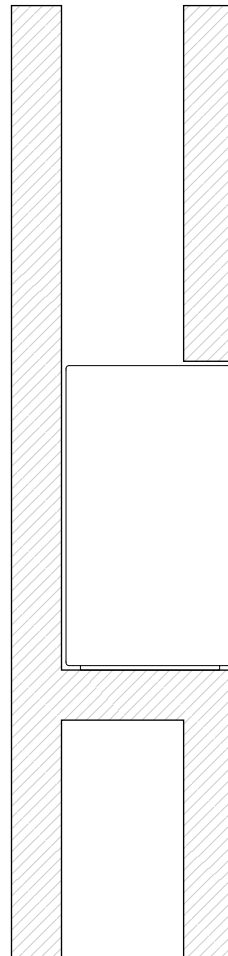

Figure 4: Acheron Designer Mounted in Baffle Wall with Open Ventilation Above Loudspeaker
- When installing the Acheron Designer in a baffle wall with no opening in the front of the wall for ventilation (see Figure 4), allow for plenty of ventilation above the loudspeaker within the baffle wall.